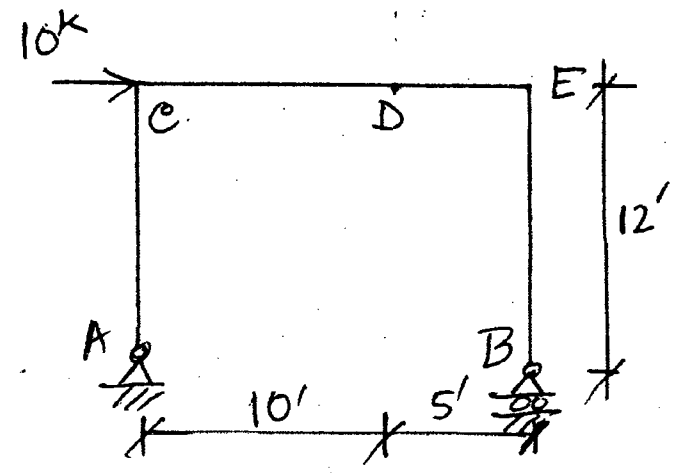

Fig. 7
7. Determine vertical deflection of point "D" of the frame shown in Fig. 7. Assume the followings—